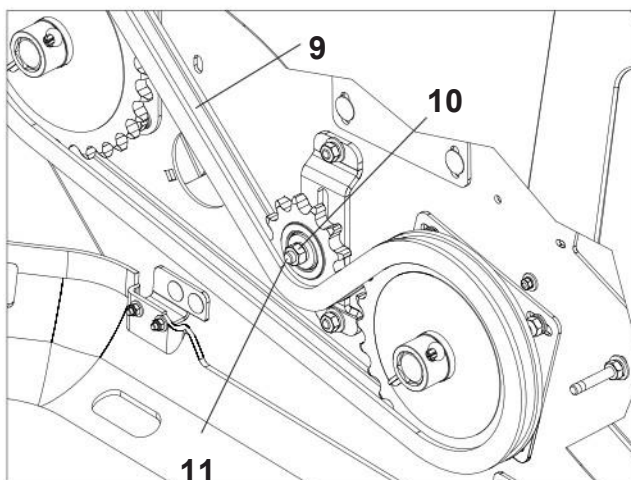

FIGURE 08
- Loosen the nut (10), slide the stretcher (11) until the necessary tightness.
- After that, retighten the nut (10), as shown in Figure 08.